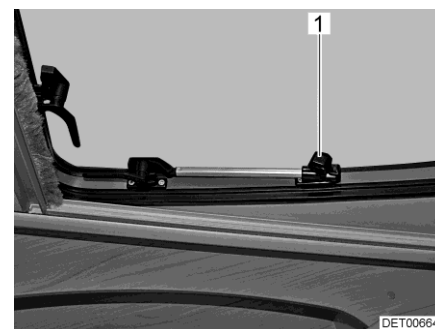

Fig. 44 Roof window with rotary hinges, open
- Open the roof window until the required position has been reached and use knurled knob (Fig. 44,1) to secure in position.
- Turn knurled knob (Fig. 44,1) until the latch is released.